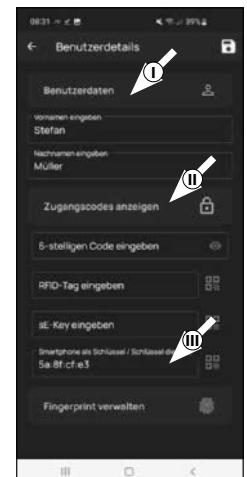

Fig. 3
This section allows the user to enter the desired opening media (II) (Fig. 3). The lock opening by smartphone is automatically stored in the administrator's user profile (III) (Fig. 3).